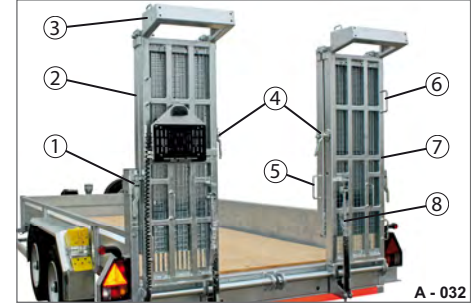
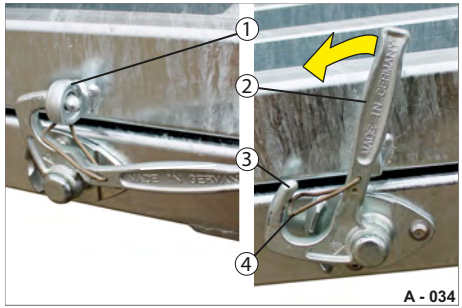

Fig. 34 Drive-up ramps, two-piece
Fig. 36 Unlocking the rotary lever latch
- ▶ Unlock the rotary lever latch (Fig. 34/4): Press in the closing spring (Fig. 36/4) and simultaneously open the lever (Fig. 36/2) fully. The hook (Fig. 36/3) is released. The top section of the ramp is unlocked.